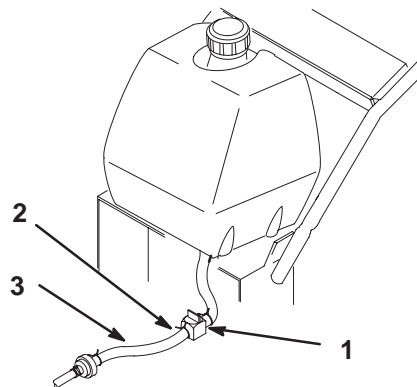

Figure 37
- Close the fuel shut-off valve at the fuel tank (Fig. 37).
- Squeeze the ends of the hose clamp together and slide it up the fuel line away from the valve (Fig. 37).
5. Pull the fuel line off of the valve (Fig. 37).
2. Close fuel shut-off valve at the fuel tank (Fig. 37).
6. Open the fuel shut-off valve at the fuel tank (Fig. 37).